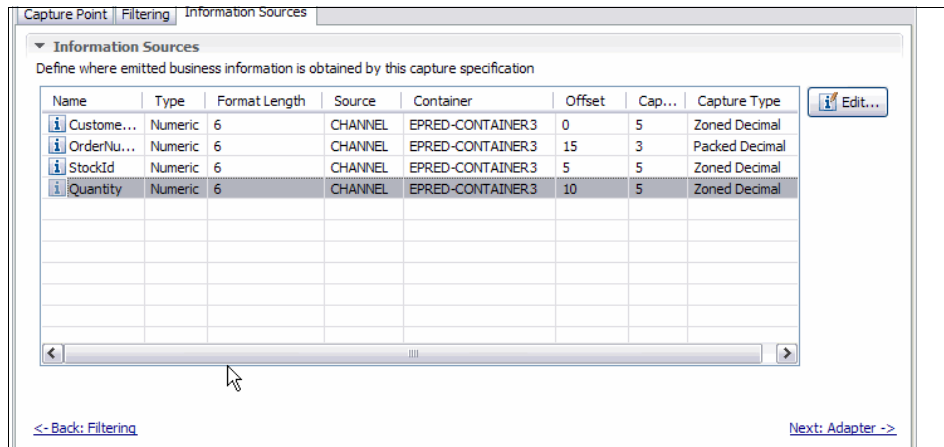

Figure 5-52 Setting information sources
7. On the Information Sources panel, click the Information Sources one-by-one and click **Edit**. On the Information Source panel, click CHANNEL and enter the information shown in Table 5-2. The result is shown in Figure 5-52 on page 135.